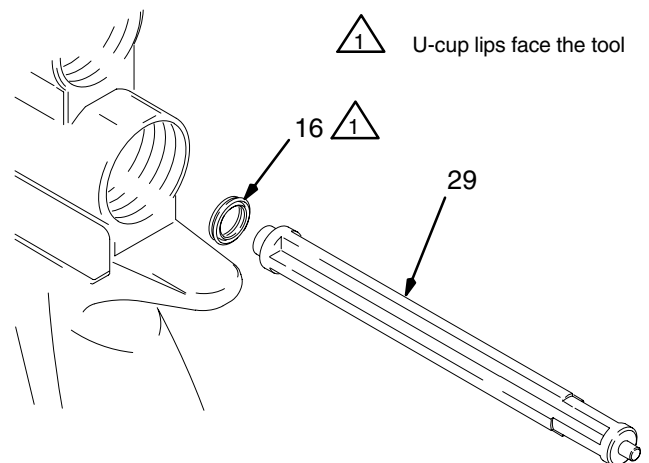

Fig. 30
22. Place the new u-cup (16) on the seal installation tool (29), with the u-cup lips facing the tool as shown in Fig. 30.
23. Push the packing (16) into the back of the gun until a definite snap is felt.
24. Remove the u-cup seal (20) from the fluid valve nut (19). Be careful not to damage the seal surface or the nut's internal threads.